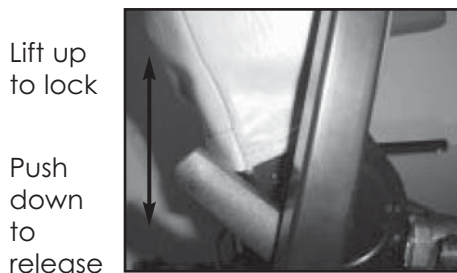

Figure 5C
To recline the back, determine which type of seat lever you have. See Figures 5C and 5D below.
2. **If your recline lever looks like FIGURE 5C** – PUSH DOWN on the lever to release the latch. With the assistance of a caregiver, position the seatback in a comfortable position. LIFT UP on the lever to lock the seatback in position.